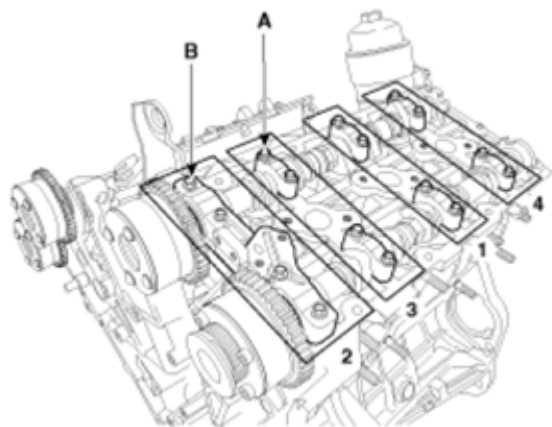
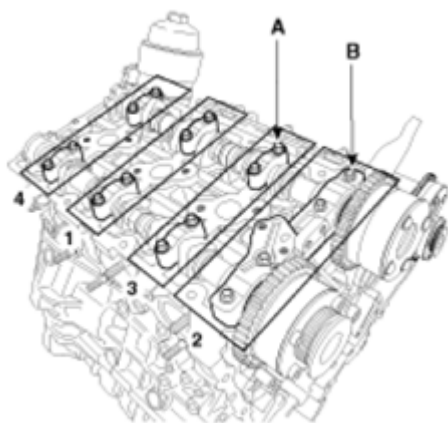

Fig. 23: Identifying Bearing Cap & Thrust Bearing Cap (1 Of 2)
Fig. 24: Identifying Bearing Cap & Thrust Bearing Cap (2 Of 2)
4. Install the bearing cap (A) and thrust bearing cap (B) with specified torque. Refer to **Fig. 23** and **Fig. 24**.